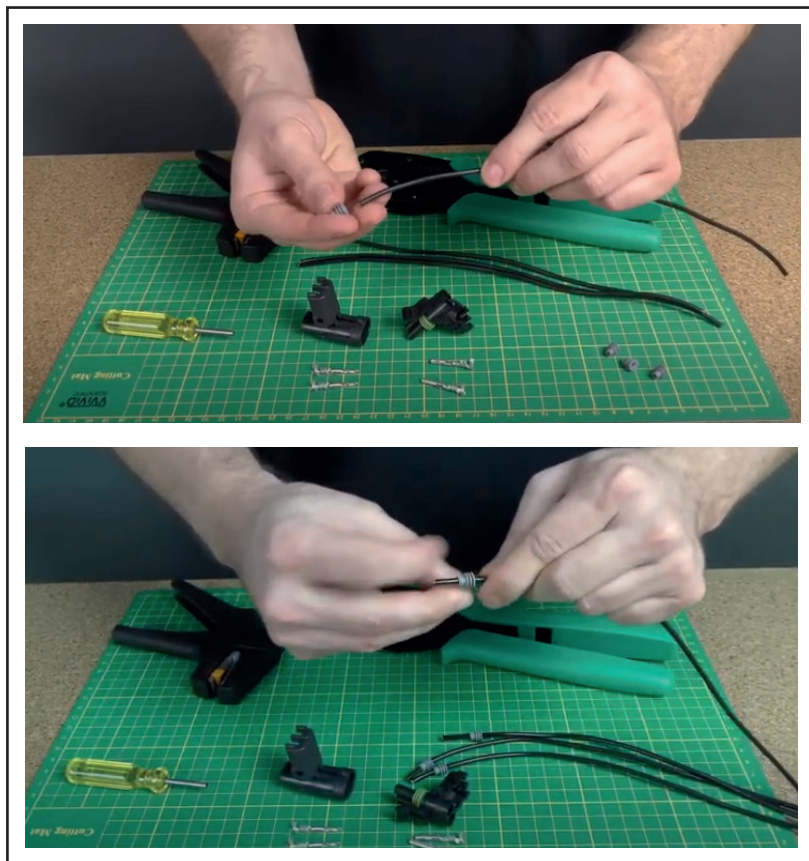

Figure 4 - Inserting Seal into the wire
- 1.6. Slides the seals into the wires (see figure 4).